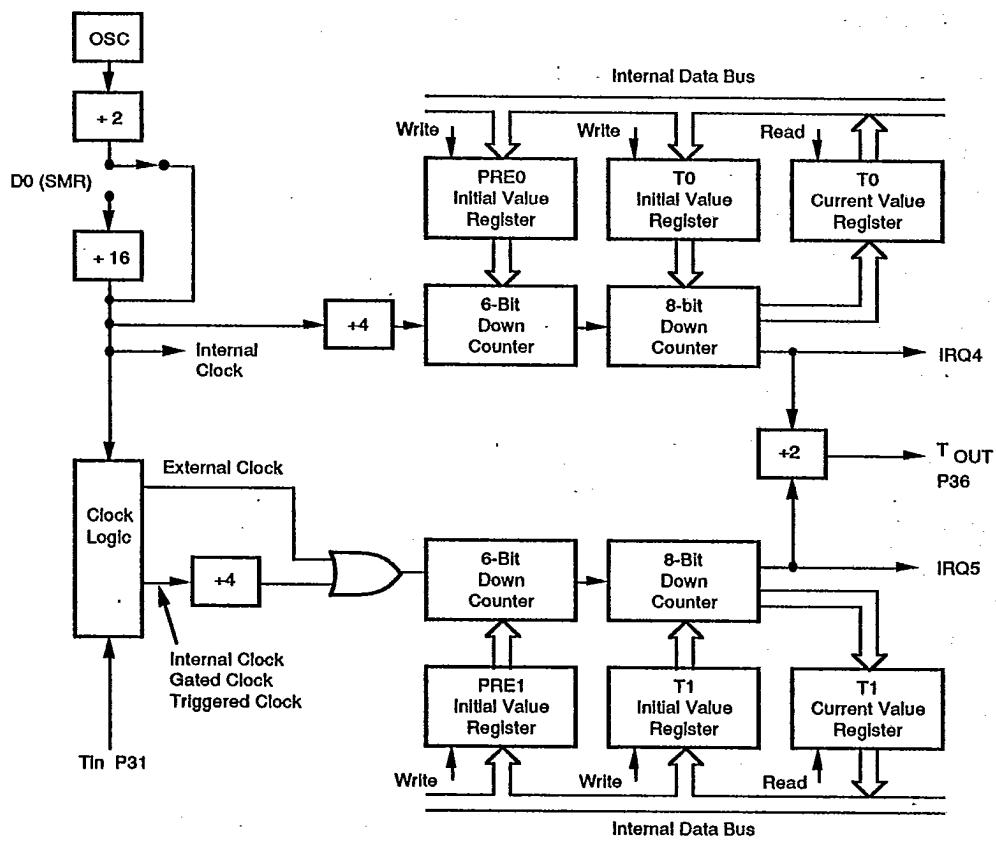

Figure 9. Counter/Timer Block Diagram
**Counter/Timers.** There are two 8-bit programmable counter/timers (T0-T1), each driven by its own 6-bit programmable prescaler. The T1 prescaler can be driven by internal or external clock sources, however, the T0 prescaler is driven by the internal clock only (Figure 9).